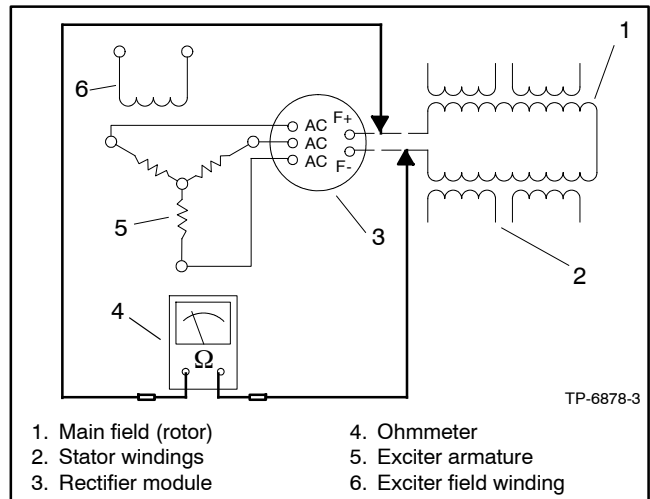

Figure 10-8 Ohmmeter Connections on Main Field
2. Check the main field (rotor) resistance by connecting an ohmmeter across the main field (rotor) F+ and F- leads. See Figure 10-8. See Section 1, Specifications, for the resistance value.